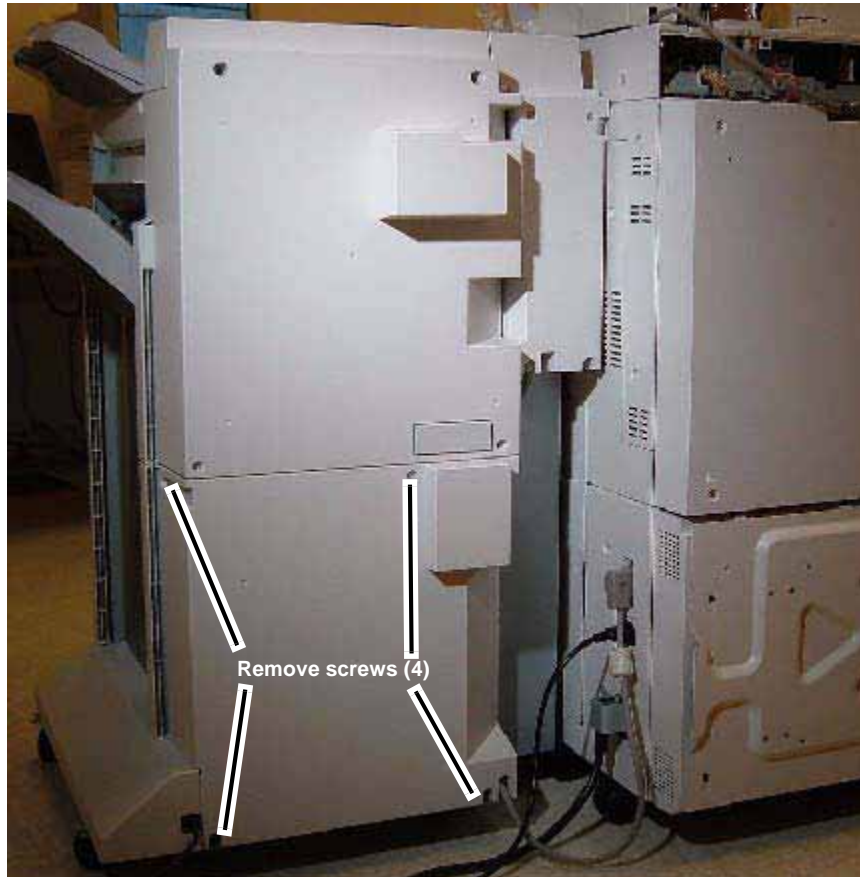

Figure 1 Removing the Rear Lower Cover
1. Remove the Rear Lower Cover (Figure 1).